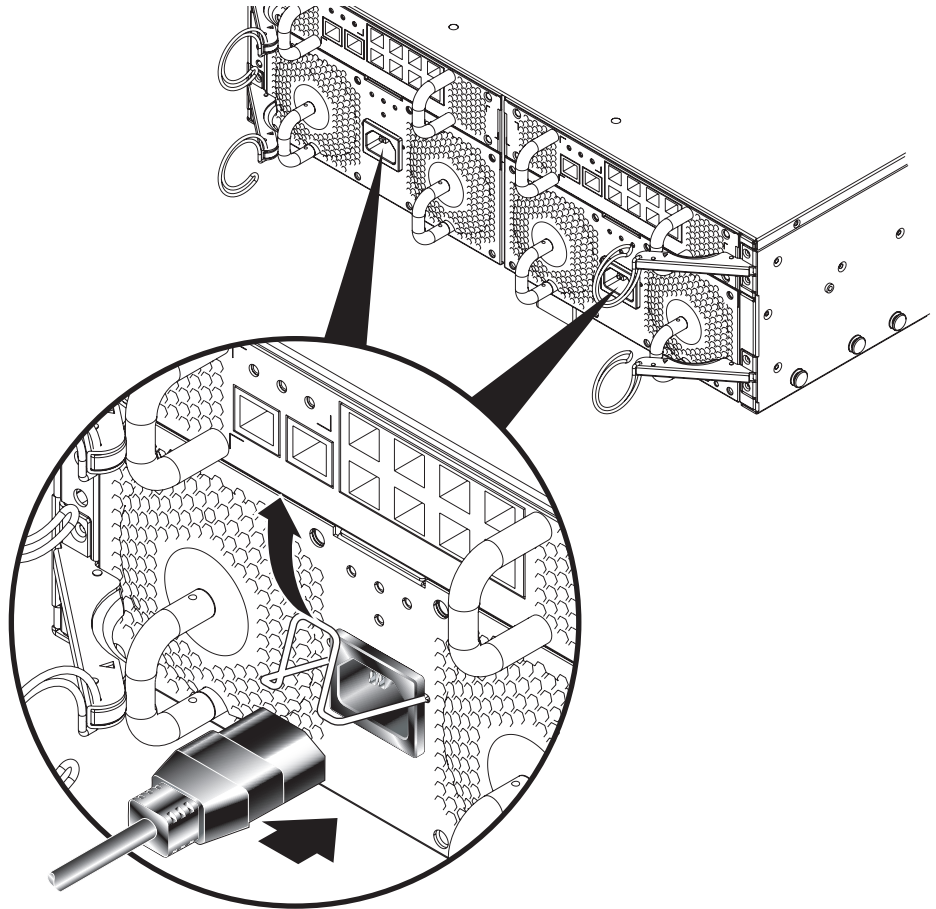

FIGURE 5-2 Inserting the IEC Power Cords
1. Connect the power cord to the IEC power inlet (FIGURE 5-2).